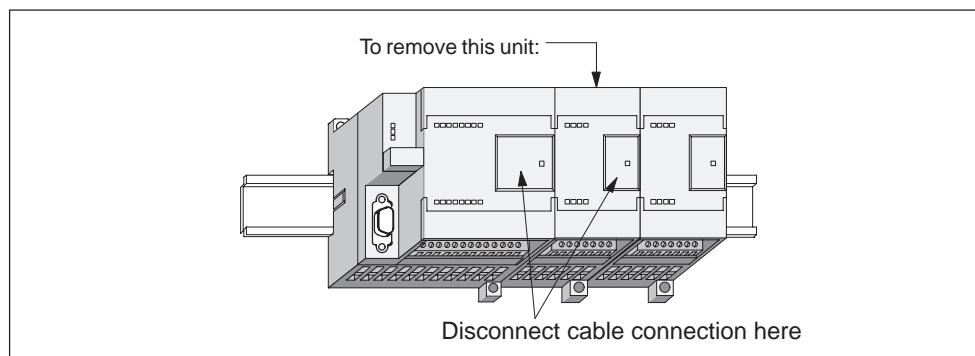

Figure 2-7 Removing the Expansion Module
1. Disconnect all the wiring and cabling that is attached to the module that you are removing. See Figure 2-7. Some CPUs and expansion modules have removeable connectors.